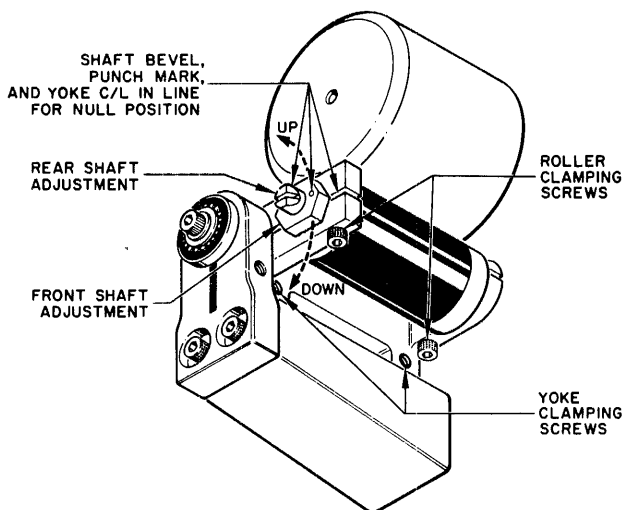

Figure 5-8.
5-34. Correct gap spacing between capstan and capstan roller is .008 to .010-inch with a maximum variation over the length of the gap of .001-inch. Two adjustments are provided (Figure 5-8); one to obtain parallelism between the capstan and capstan roller, by rotating hexagon eccentric bushing supporting the capstan roller shaft, the second, used to obtain gap adjustment, by turning the capstan roller yoke on the actuator shaft.
Step 1: Before commencing any adjustment, check that the capstan roller shaft has the slot aligned in a horizontal plane with the beveled side furthest from the actuator shaft. The punch mark on the hexagonal eccentric should be positioned likewise as shown in Figure 5-8.
Step 2: Loosen the two yoke clamping screws (Figure 5-8) until yoke can be rotated on actuator shaft with a slight drag.
Step 5: Measure the front end of the gap with the feeler gauges and, if needed, adjust the front eccentric (hexagonal bushing) to give a parallel gap. The front eccentric clamping screw (Figure 5-8) should be loosened during this step and then tightened. Clockwise rotation will raise and counterclockwise will lower the front (nearest operator) of the capstan roller. Maximum adjustment of the eccentric should not exceed 45° from the horizontal starting point, equal to .005 inch vertical displacement at the roller.